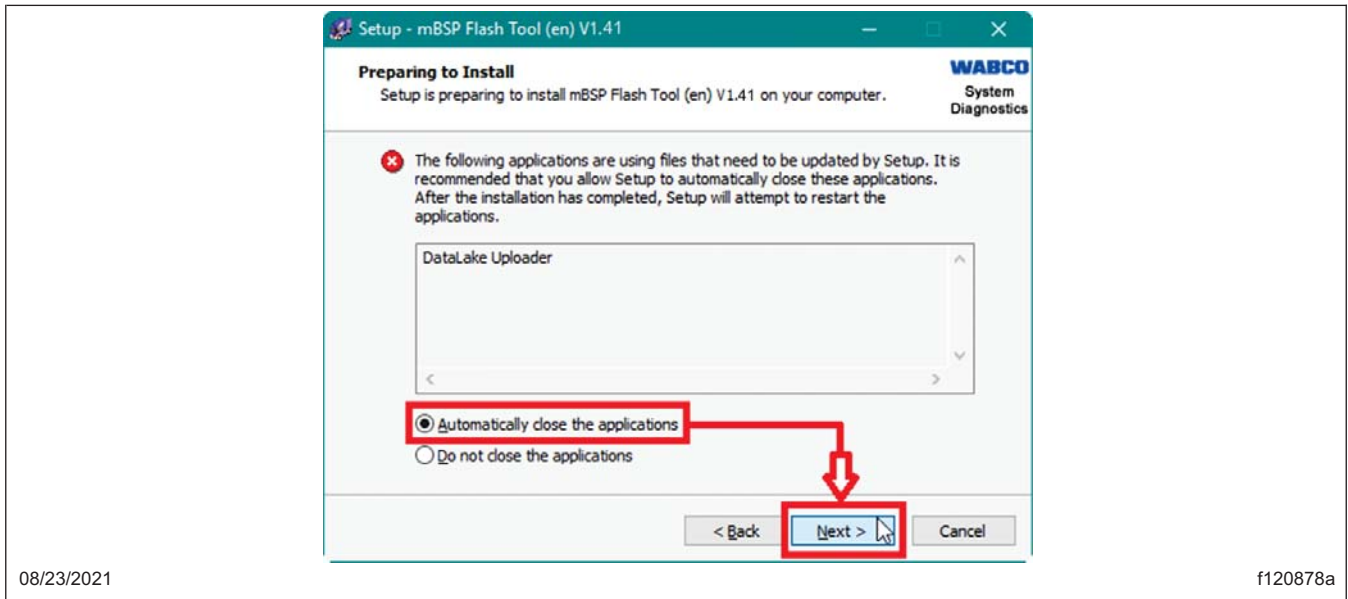

Fig. 18, Closing Applications Blocking Installation
7.12 If a 'Preparing to Install' dialog window appears stating that the files needed by the setup program are in use by another application, select 'Automatically close the applications,' then select 'Next.' See Fig. 18.